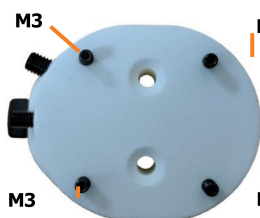

Figure 17a
- If you will be mounting the lock from the distal end of the socket, you will need to remove the side screws. The side M4 screws can be removed with a 2 mm hex wrench. Your dummy should look like the one shown in Figure 17a.
For **distal mounting**, use a 1.5 mm hex wrench to insert the 4 provided **M3** set screws into the top holes of the dummy (Figure 17a).